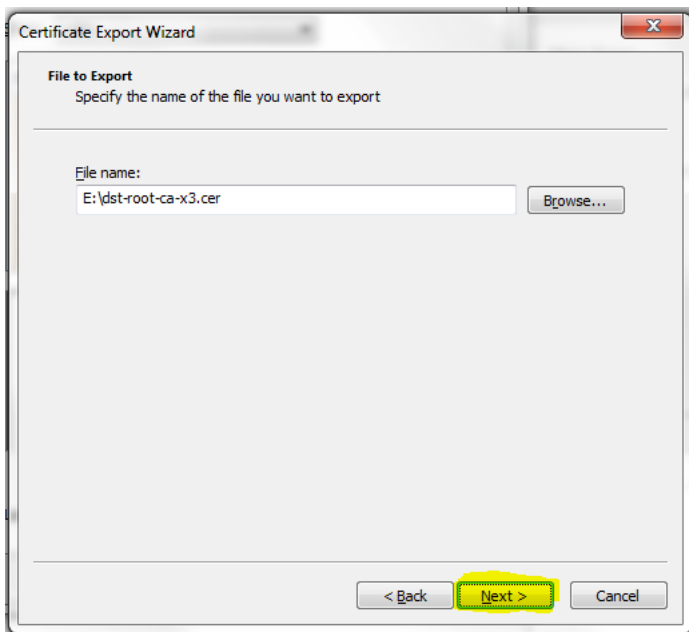

FIG. 469 Certificate Export Wizard - File To Export
10. Click **Next** (FIG. 469):